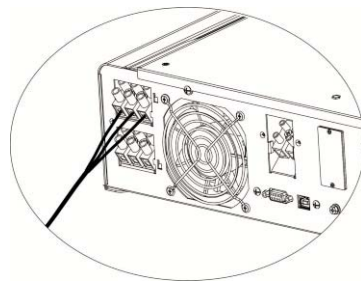

Figure 8.2
Step 2: Connect wires according to polarities indicated on terminal block. Be sure to connect PE protective conductor (⊥) first. Refer to Figure 8.2.